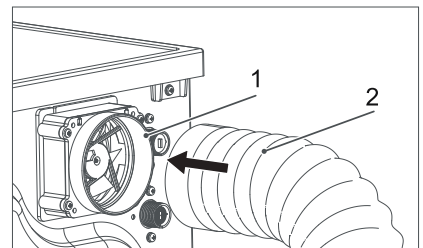

Fig.9
To install the vent hose, attach the vent hose (2) onto the vent hose adapter (1) as shown in Fig.9